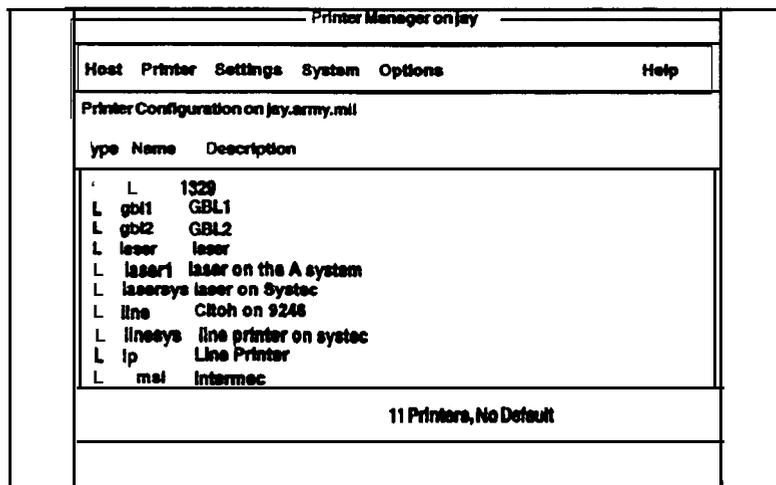

Figure 9-3. Printer Manager Screen
2. Use your **arrow** key to move and highlight **Printers**. Press **RETURN**. At the new window, use your arrow key to highlight **Printer Manager**. Press **RETURN**. You now receive the Printer Manager screen (see Figure 9-3) with a listing of printers.